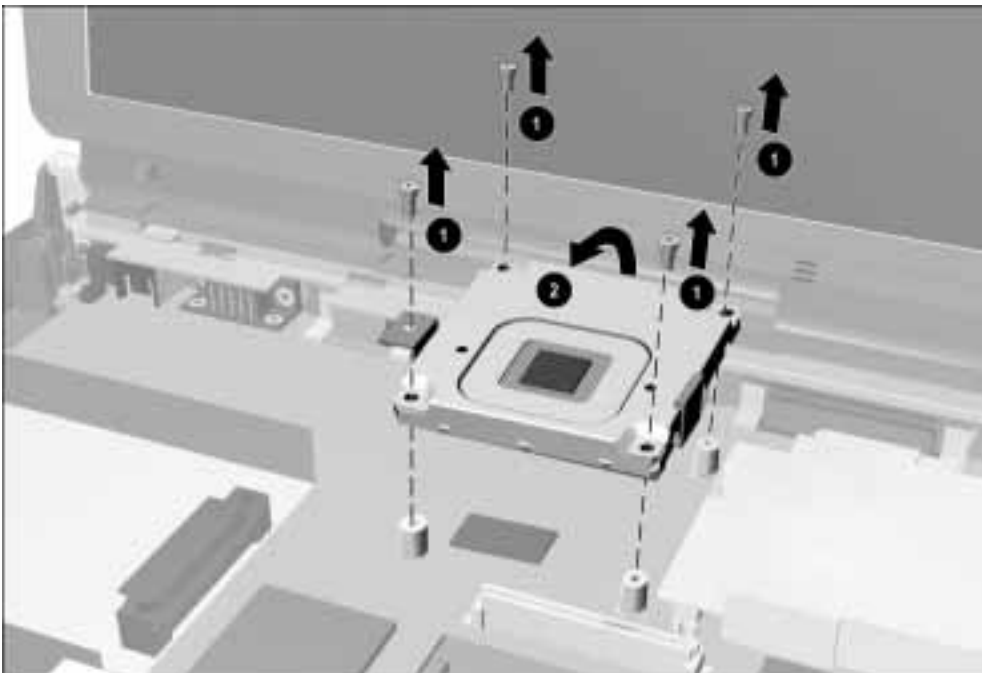

Figure 5-31. Removing the Processor Board
When installing the processor assembly, make sure the processor spacers, processor assembly, and screws are installed in the proper sequence. Refer to Figures 5-31 and 5-32 for the proper installation sequence.
3. Remove the four screws ❶ that secure the processor board to the system board. Lift up on the back edge of the processor board ❷ and swing it forward to disconnect it from the system board and remove the processor board (Figure 5-31).